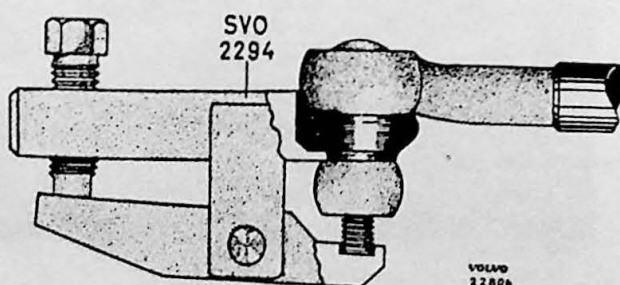

Fig. 6-30. Removing the ball joint
The steering rod ball joints are made integral with the steering rod so that the complete steering rod must be replaced. When removing, first take out the split pins and unscrew the castle nuts. Then place tool SVO 2294 on the ball joint as shown in Fig. 6-30. Press in the tool properly and ensure that the thread on the ball joint enters the countersink on the tool. Screw in the bolt until the ball joint slackens. If the
The tie-rod ball joints can be replaced individually. When replacing, first disconnect the ball joint from the pitman arm and idler arm respectively as described above (Fig. 6-30). Then slacken the locknut and screw out the ball joint. The new ball joint should be screwed in an equal number of turns to facilitate adjusting the toe-in. Lock the ball joint to the rod. When replacing the ball joint rubber covers, these should be filled with grease.
2. Screw back the bolt on puller SVO 2294 and place the tool on the tie-rod ball joint at the idler arm as shown in Fig. 6-30. Press in the tool properly and ensure that the thread on the ball joint enters the countersink on the tool. Screw in the bolt until the ball joint releases from the idler arm.